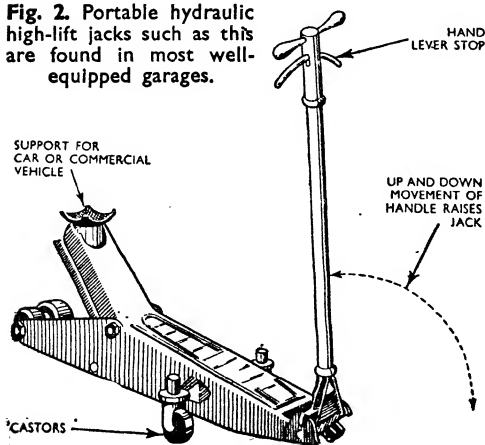

**Fig. 1.** Double-screw jack of the type widely used with light-weight road vehicles.
the weight resting on it. In order to obtain maximum lift this type of jack (Fig. 1) is sometimes constructed with one threaded spindle inside another. When the outer screw reaches the end of its travel the next comes into operation, thus continuing the raising movement.
The joints for lengthening heavy constructional timbers, without increasing the sectional area, are known as *scarfed* joints. There are several variations shown in Fig. 1. When the scarfings are parallel to the edges they are also known as *table* joints. If they are strengthened by iron or wood plates they are called *fished* joints. The joints are bolted together and the bolts must be staggered. Hardwood keys or folding wedges are often used to force the ends into contact. The proportions shown are only approximate, and every case must be designed according to its position in the structure and the load it has to carry.
**Fig. 1.** In all constructional work the most vital factor to be borne in mind is strength, whereas the appearance of the finished structure is of only secondary importance. It therefore follows that joints intended for use in structural